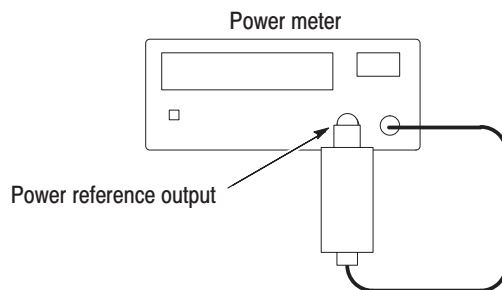

Figure 4-9: Hookup for calibrating the power sensor
- d. Connect the RF input of the power sensor to the power reference output of the power meter. See Figure 4-9 on page 4-23.